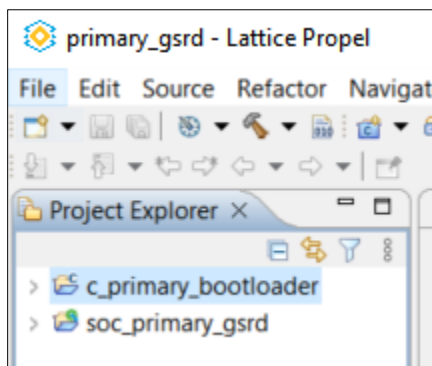

Figure 7.27. Bootloader C Project Created
- This loads the bootloader project in the workspace as shown in Figure 7.27.